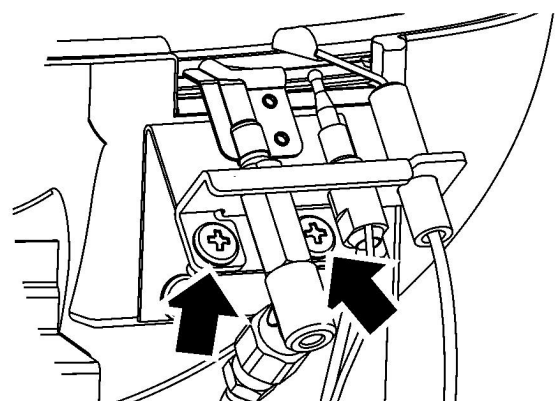

Figure 31. Pilot unit removal
6. Remove the two screws securing the pilot unit (See figure 31).